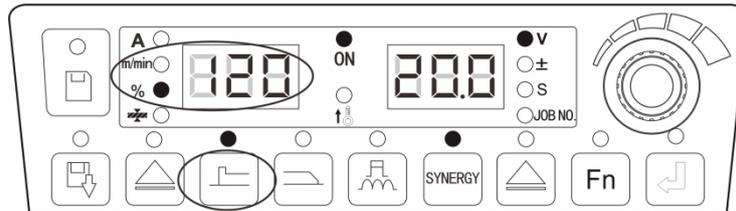

Fig. 3-6 Starting arc parameter percentage setting interface
2. When the "%" indicator is on and the left digital tube is blinking, set the percentage of wire-feeding speed in the arcing section with the panel knob. After setting, press the "**Enter**" key to confirm, as shown in Fig. 3-6.